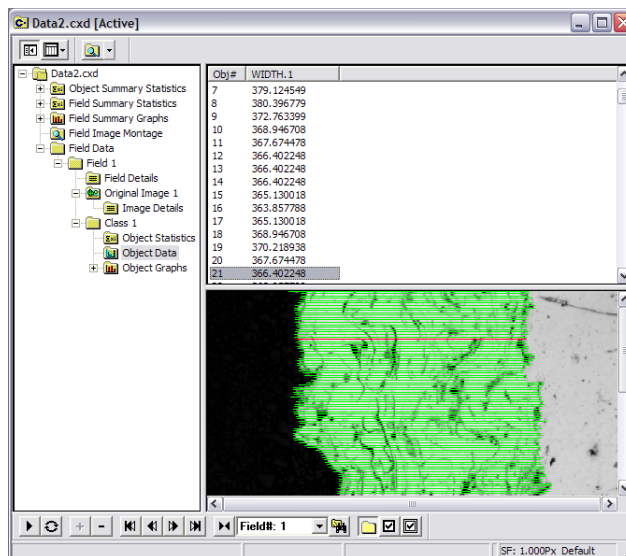

fig.31
12. The data document (**fig.31**) will be displayed, giving access to object summary statistics, object summary graphs, field summary statistics, field summary graphs, field image montage and field data. In this case, the data are reported for the **Width** of the coating.